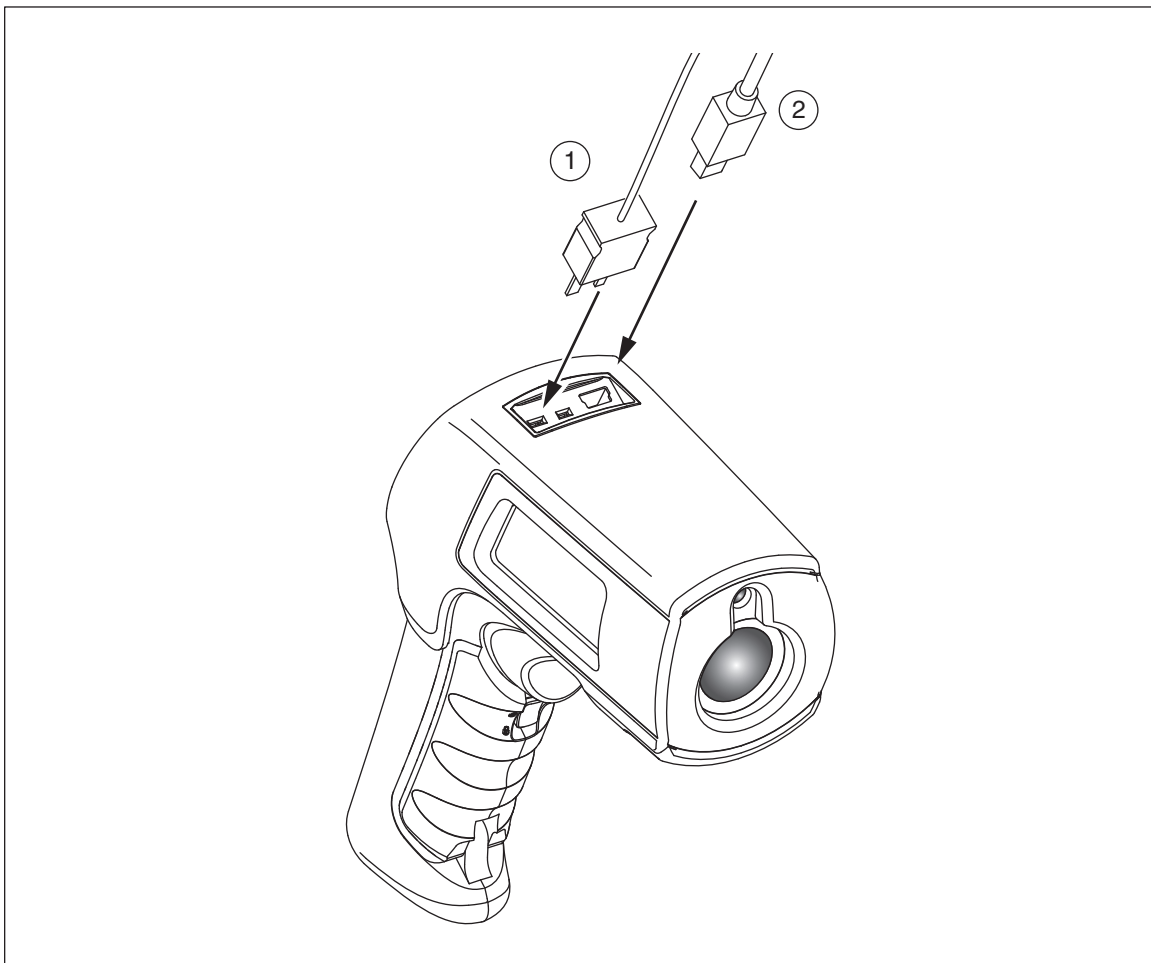

Figure 7. Thermocouple and USB Connections
The stored data of the 568 can be downloaded to a personal computer (PC) via the included USB cable and the included FlukeView® Forms Documenting Software. See the FlukeView® Forms documentation for details. The USB input ② is located on the top of the thermometer next to the external probe input ① (see Figure 7).
The thermometers come with a bead K-type thermocouple probe. The probes attach to the thermometers via the probe input located on the top of the thermometer (see Figure 7).